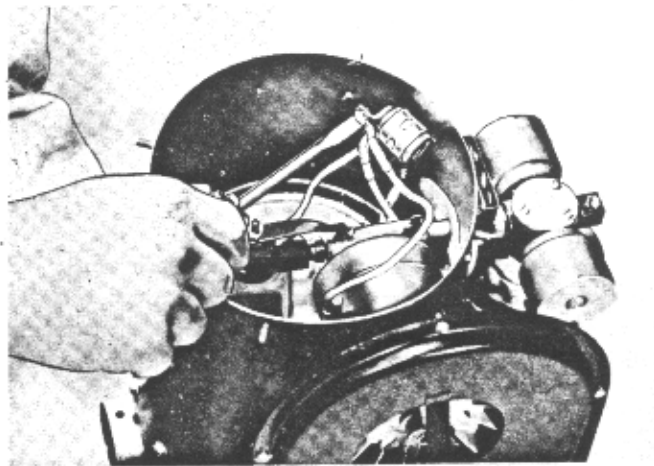

Figure 29
2. Disconnect combustion air motor lead No. 6 from the condenser inside the heater case (Figure 29) on the MR heater or from terminal No. 6 on the terminal strip of the MH heater.